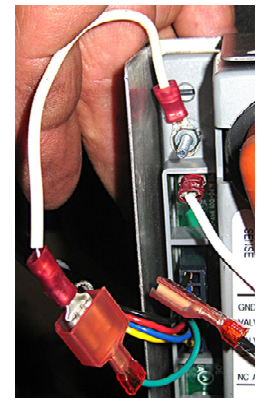

Figure 16
19. Attach the white ground wire removed from the previous step to the ground lug of the new module. Attach the other end to the green wire from the 8-pin connector (see Figure 16). Leave the black wire disconnected, as it is not used.